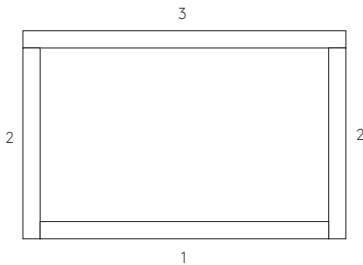

Figure 9: Numbered installation sequence
- Insulation is applied to the ductwork with aluminium tape, usually starting from the bottom and finishing on the top as shown in the installation sequence in Figures 9 and 10.
- To maintain the specified thickness of insulation at all four corners of the duct, on horizontally orientated ducts, the insulation fixed to the top / bottom and the insulation that is fixed to the sides should overlap as shown in Figures 9 and 10.